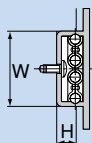

Fig. 5
Fig. 5 shows the dimensions of grooves for applications where model FBW-R (H) is installed in a groove.